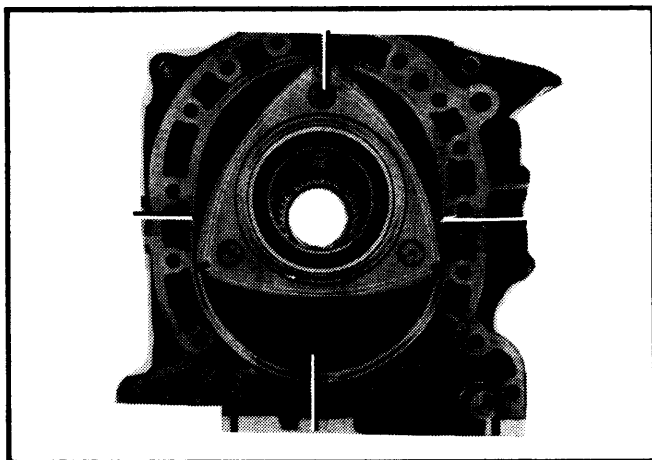

Fig. 20 Positioning Rotor Apex for Reassembly
2) Mesh internal gear and stationary gear so that one of the rotor apices is set to any one of the four positions as illustrated. Remove old "O" ring. See Fig. 20.